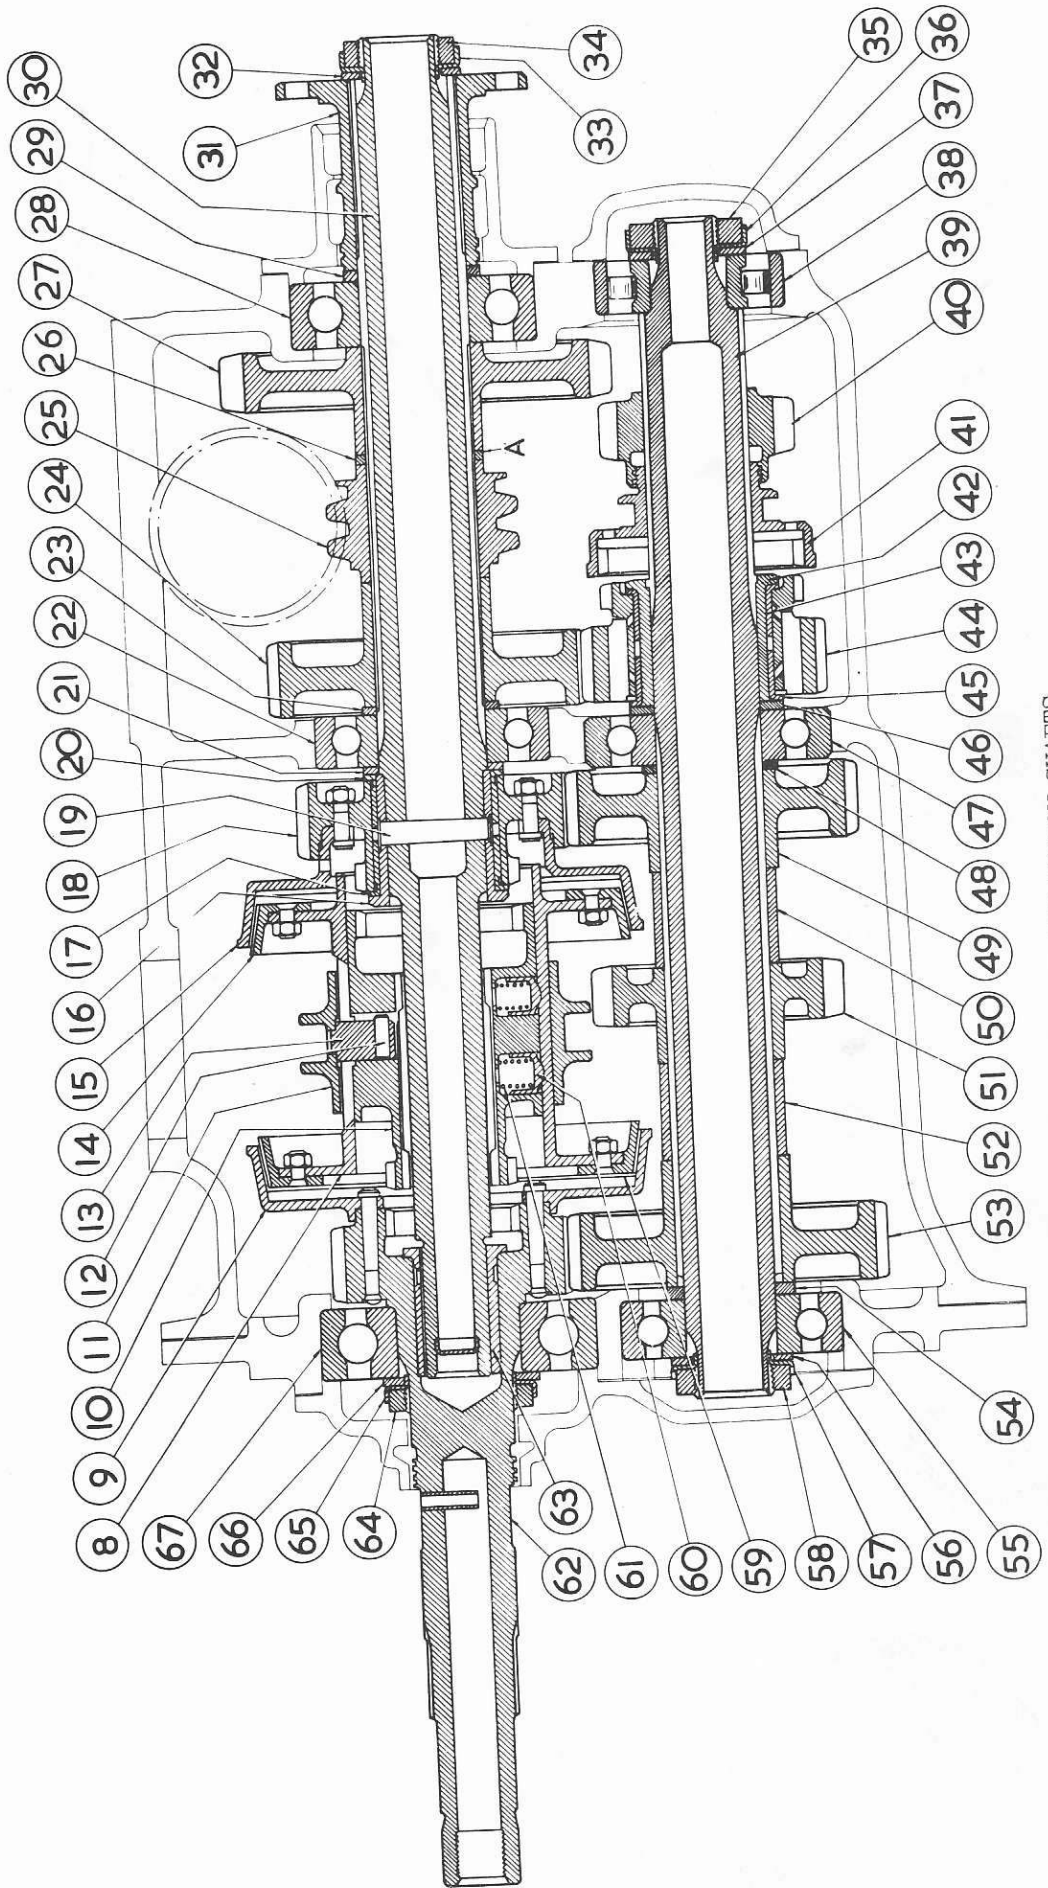
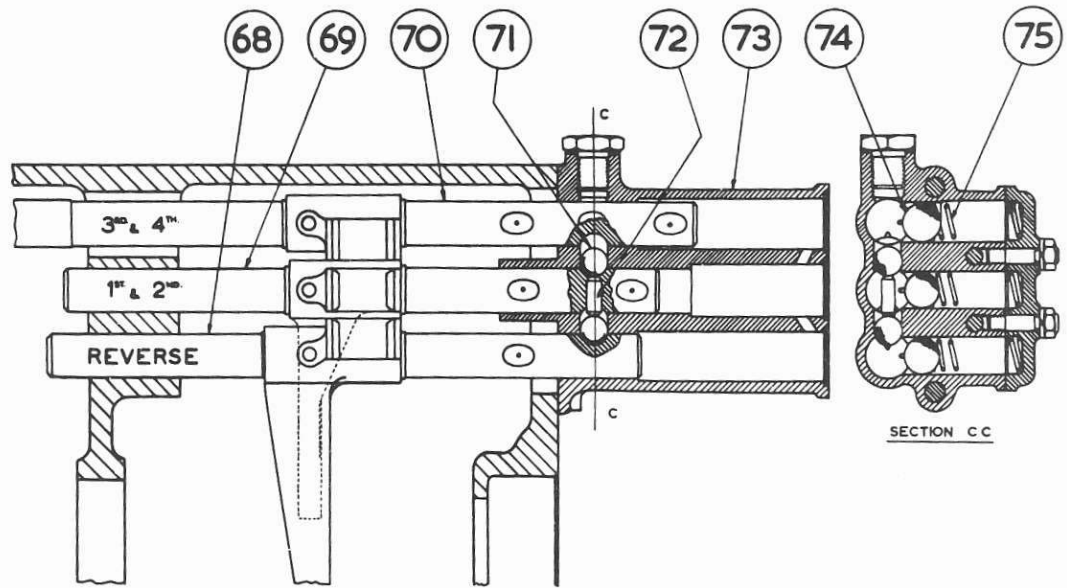

FIG.2. SECTION - 1ST, 2ND AND 3RD MOTION SHAFTS.
FIG. 3. SECTION - SELECTOR SHAFTS & INTERLOCK MECHANISM.
- a) Place a circular lever (about 14" long x 7/16" dia.) through the aperture at the top of the front end of the gearbox, enter the lever in the stirrup groove of the 3rd and 4th speed actuating sleeve (11 Fig.2) and push the sleeve towards the rear of the gearbox to engage the 3rd speed gear.
- (xv) Remove the retaining nut, 34 Fig.2 (R.H.thread) from the rear end of the 3rd motion shaft, collect the clamping washer (32) and withdraw the coupling flange (31) from the shaft.
- (xvi) Remove the gearbox support bracket from the rear of the box and the cover for the 3rd motion shaft complete with oil drain pipe (if the latter is fitted). Remove the adjusting washer (29) and TIE it to the coupling flange.
- (xvii) Remove the cover (secured by 11 nuts) from the front end of the gearbox, collect the thin metal oil baffle adjacent to the ball bearing of the 1st motion shaft and the aluminium distance piece adjacent to the ball bearing at the front end of the 2nd motion shaft. Remove the nut, 58 (R.H.thread) from the front end of the 2nd motion shaft and collect the clamping washer (56).
- (xviii) Remove the nut, 64 (L.H.thread) from the 1st motion shaft and collect the clamping washer (66).
Notation List for Fig.2.
(xix) Remove the spring loaded cover (secured by 2 nuts) from the bronze plunger housing at rear of gearbox and the three springs (75 Fig.3).
- (i) To dismantle, remove the four 2-BA nuts and bolts securing the two halves of the actuating sleeve (11 Fig.2) and remove the two operating cams (13) from the sliding piece (10) and collect the two pins (12) if free.
- (ii) Push the sliding piece out of the outer member (8), taking care not to lose any of the six or eight plungers and springs. This may be avoided by wrapping a piece of cloth around the outer member prior to removal of the sliding piece.
- (iv) If the circular portion at the upper end of the two operating cams (13) where they locate in the actuating sleeve, are worn, new cams should be fitted.
When re-assembling, discard all old tab locking washers, aluminium washers, Vellumoid and red fibre (or "Oakenstrong") joints. If the 1st speed gears are noisy due to wear of the teeth beneath the hardened surface, opportunity should be taken to fit a new driver and driven gear (40 & 27 Fig.2), Part No.GB-435 and GB-430, otherwise the small particles of metal which disintegrate from worn gears will be carried around in the oil and may cause damage to the teeth of other gears and the bearings.
NOTE: When re-assembling the parts to the 2nd motion shaft, the gears must be placed the correct way round and the various washers positioned as shown in Fig.2.
NOTE: When re-assembling the parts to the 3rd motion shaft, the gears must be placed the correct way round (this does not apply to the worm gear 25) and the various washers positioned as shown in Fig.2.
- (i) Hold the front end of the shaft horizontally in a vice. Fit two new bronze bushes (17 & 20) to the 3rd speed constant mesh gear (18) as described in sub-para.(i) for the 2nd motion shaft.
- (ii) If the adjusting washer (23) is worn, measure the thickness on the unworn portion and fit a new washer of the same thickness.
- (iii) With the gear (18) and the thrust washer (21) in position, fit the remaining ball bearings, gears, washers and the driving flange (31) to the shaft including the clamping washer (32); omitting the lockwasher (33) at this stage.
- (iv) Tighten up the retaining nut (34) and again check the constant mesh gear (18) for freedom, if not free, this will be due to excess of "nip" on the rear face of the driving flange (31) causing the thrust washer (21) to exert a slight load on the bushes. Remove the adjusting washer (26), and fit a washer of a thickness that will allow the end face of the driving flange to stand out .003" beyond the ends of the splines of the shaft to give the required nip when the retaining nut is fully tightened up. Conversely, if after tightening up the retaining nut, the 1st speed driven gear (27) has end float, however small, proceed as follows:-
- a) Select a feeler gauge which can just be inserted between the washer (26) and the gear (27) i.e. at point 'A' Fig.2.
- b) With the adjusting washer (23) still in position, enter the shaft at the front end of the gearbox and engage the gear (24), the worm gear (25), the washer (26), this washer must be placed at the REAR END of the worm gear, (as shown in Fig.2) and the gear (27).
- c) Continue to push the shaft rearwards simultaneously engaging the constant mesh gear (18) with the constant mesh gear (49) on the 2nd motion shaft; line up the centre ball bearing (22) with its housing in the gearbox and tap the shaft into position until the ball bearing is centrally located in the housing.
- d) Fit the rear ball bearing (28) followed by the washer (29); greasing the latter to keep it in position.
- (vii) Next, place No.1 distance piece (50) on the 2nd motion shaft.
- (viii) Slide the reverse driving gear (51) on to the end of the 2nd motion shaft, hold this gear with the left hand and the 3rd and 4th speed synchromesh assembly with the right hand and manoeuvre the synchromesh assembly on to the 3rd motion shaft, the gear (51) will then be about midway between the two bronze cones. The synchromesh assembly should be positioned so that the external teeth of the sliding piece (10) face towards the front of the gearbox.
- (x) Place No.2 distance piece (52) on to the 2nd motion shaft.
- (xi) Fit the ball bearing (67) to the diaphragm and tap the 1st motion shaft into this bearing.
- (xiii) With the floating bush (63) in position in the 1st motion shaft, hold the constant mesh gear (53) against the diaphragm with the left hand and enter the diaphragm into position on the gearbox simultaneously guiding the gear on to the 2nd motion shaft.
- (xv) Next, assemble to the 2nd motion shaft, the washer (54), the ball bearing (55), the clamping washer (56), the lockwasher (57) and lightly tighten up the retaining nut.
- (xvi) Assemble to the 1st motion shaft, the clamping washer (66), the lockwasher (65) and also lightly tighten up the retaining nut.
- a) Push the centre selector shaft rearwards; grease and place the pin (72 Fig.3) in the rear end of it.
- b) Apply a soft type of grease to the horizontal passage in the bronze plunger housing (73) in which the two .375" dia. steel balls are housed and place the latter in position.